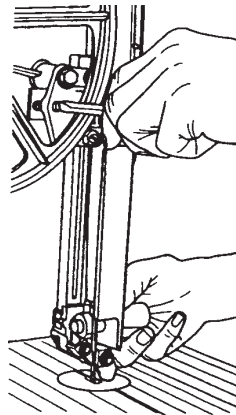

Figure A-12
4. If the movement of the upper blade guide's height lock seems stiff (or loose), you need to adjust the tension on the locking spring (72). This tension is set by a small headless screw (73) in the left side of the guide post retainer between the mounting bolts. There should be enough tension to hold the guide post securely when locked in place, but not so much that the lock handle is difficult to operate or that the guide post will not slide easily when the lock is released. See Fig A-12.